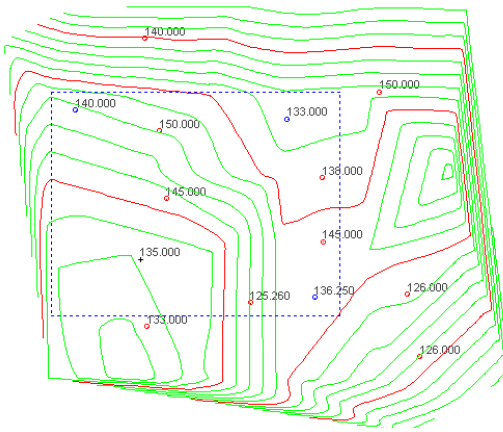

Figure 6-19. Example – Select Points by DTM
2. Select the following options from the *Select by DTM* dialog box (Figure 6-19 on page 6-22):